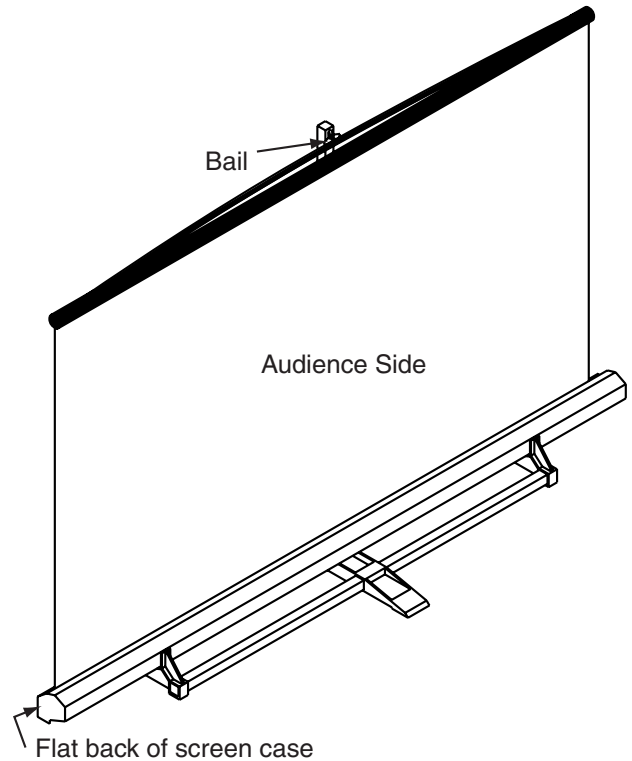

Figure 2
- ① Place screen case into Outrigger Feet. Place so screen case is centered, and set screws will tighten against flat back of case. Flat back of case will face away from audience (viewing surface will face audience).
- ② Tighten set screws against flat back of case to hold in place.
- ③ To raise screen, pull bail upward in a fluid motion. Hang bail on bail hook to hold in place (see Fig. 2).